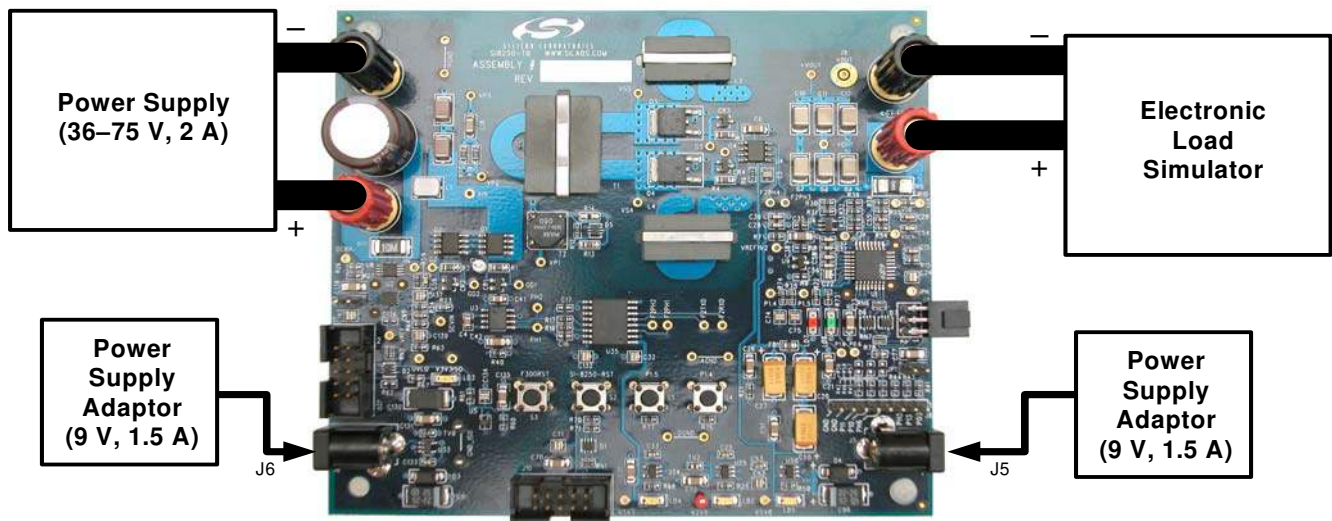

Figure 2. Board Power Configuration
1. Connect the two 9 V, 1.5 A universal power supplies (supplied with the kit) to J5 and J6 as shown in Figure 2. This supply provides bias for the Si8250 and driver ICs.
3. Connect an electronic load simulator or other load to the  $V_{OUT}$  terminals as shown in Figure 2.
9. At this point, power can be reapplied to the drivetrain on the Si8250 Target Board. Connect a third external supply (not provided in kit) to the  $V_{IN}$  terminals as shown in Figure 2. This supply needs to provide a voltage of between 36–75 V with at least 2 A of current.
10. Connect an electronic load simulator to the  $V_{OUT}$  terminals as shown in Figure 2.